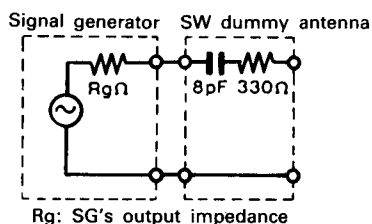

Fig. 13
2. SW dummy antenna shows Fig. 13.